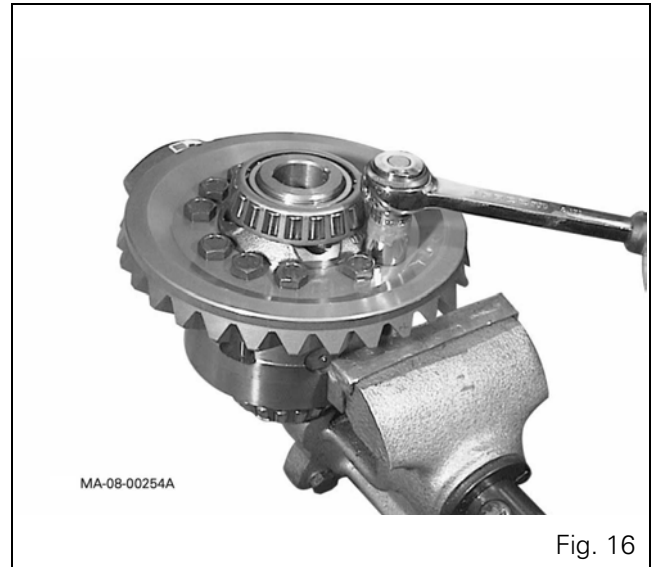

Fig. 16
25. Loosen the screws and remove the bevel ring gear (Fig. 16).